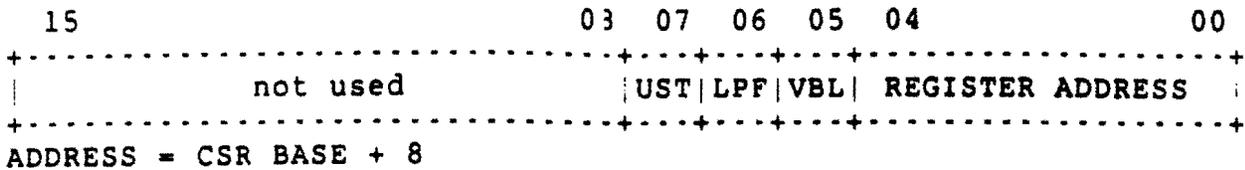

Figure 4-7: CRTC Address Register Pointer Format
4.2.4.1 CRTC Address Register Pointer - This register points to the one of 17 internal CRTC registers (Table 4-6), that is to receive the data contained in the CRTC Data Register (described below). It also contains three status bits (Figure 4-7 and Table 4-5).